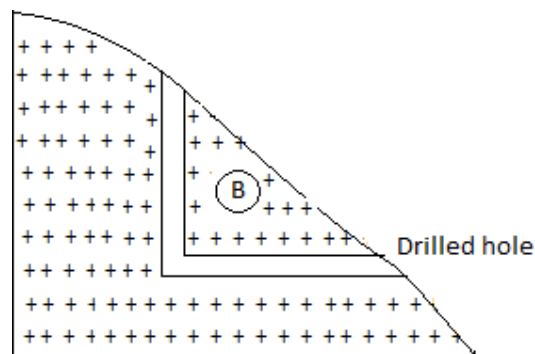

Figure 1.4 Quarrying by channelling
In this method big machines called channellizers are used for quarrying. the machines are power driven. Channellizers are used for cutting large size single block of costly stones like marbles and lime stones. The channellizers can cut a groove up to 3 m depth, 3 m length and 5 m width. Holes are then drilled horizontally from the free side to meet the groove at the back at its base. Wedges and steel bars are used to remove the block(B) from the rock. Figure 1.4 shows quarrying by channelling.